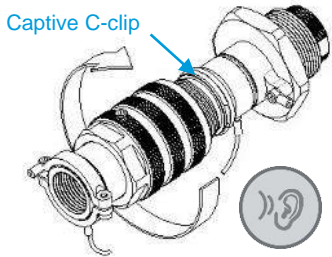

Fig. 6
- 4. Bring the connectors together and start to tighten the grip ring (10).
- 6. Continue to tighten over the C-clip, until the audible “click” indicator is clearly heard Fig. 6.